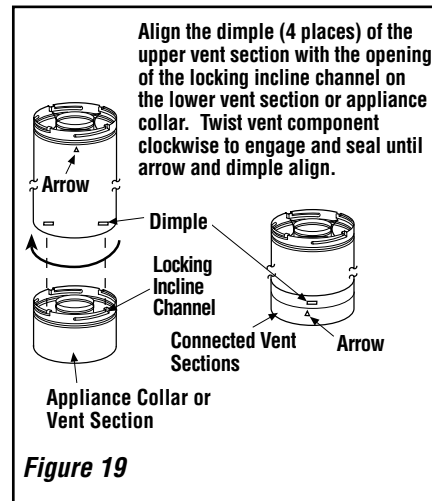

Figure 19
B. Attach vent components to appliance - Secure Vent SV4.5 direct-vent system components are unitized concentric pipe components featuring positive twist lock connections (see **Figure 19**).
To attach a vent component to the appliance collar, align the dimpled end over the collar, adjusting the radial alignment until the four locking dimples are aligned with the inlet of the four inclined channels on the collar (refer to **Figure 19**). Push the vent component against the collar until it fully engages, then twist the component clockwise, running the dimples down and along the incline channels until they seat at the end of the channels. The unitized design of the **Secure Vent™** components will engage and seal both the inner and outer pipe without the need for sealant or screws. If desired, a #6 x 1/2" screw may be used at the joint, but is not required as the pipe will securely lock when twisted.
Push the vent component against the previous section until it fully engages, then twist the component clockwise running the dimples down and along the incline channels until they seat at the end of the channels. **This seating position is indicated by the alignment of the arrow and dimple as shown in Figure 19.**
Secure Vent SV4.5 direct-vent system components are unitized concentric pipe components featuring positive twist lock connection, (refer to **Figure 19** on **Page 14**). All of the appliances covered in this document are fitted with collars having locking inclined channels. The dimpled end of the vent components fit over the appliance collar to create the positive twist lock connection.
D. Attach vent components to appliance - To attach a vent component to the appliance collar, align the dimpled end over the collar, adjusting the radial alignment until the four locking dimples are aligned with the inlets of the four incline channels on the collar (*see Figure 19 on Page 14*).
Push the vent component against the previous section until it fully engages, then twist the component clockwise running the dimples down and along the incline channels until they seat at the end of the channels. **This seating position is indicated by the alignment of the arrow and dimple as shown in Figure 19 on Page 14.**
The elbows feature a twist section to allow them to be routed about the center axis of their initial collar section to align with the required direction of the next vent run element. **Twist elbow sections in a clockwise direction only so as to avoid the possibility of unlocking any of the previously connected vent sections (see Figure 19 on Page 14).**